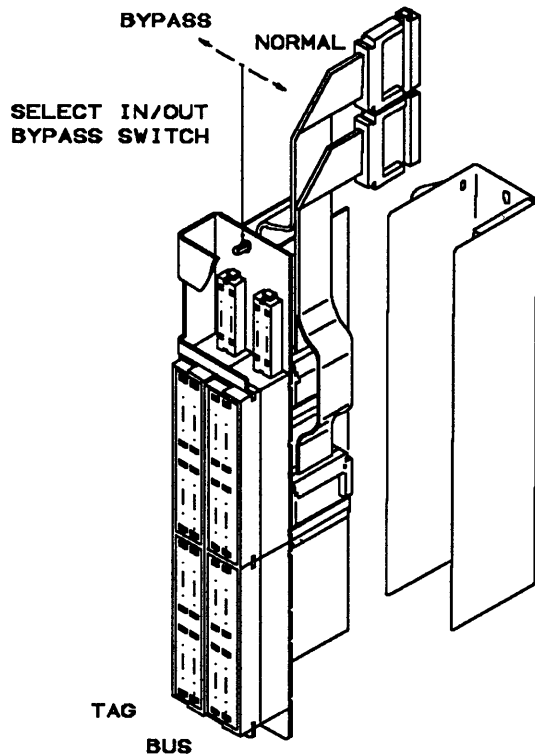

Figure 5-127. Tail Gate
6. At the tail gate, switch all the channel select in/out bypass switches to the 'BYPASS' position. Refer to Figure 5-127 on page 5-122.